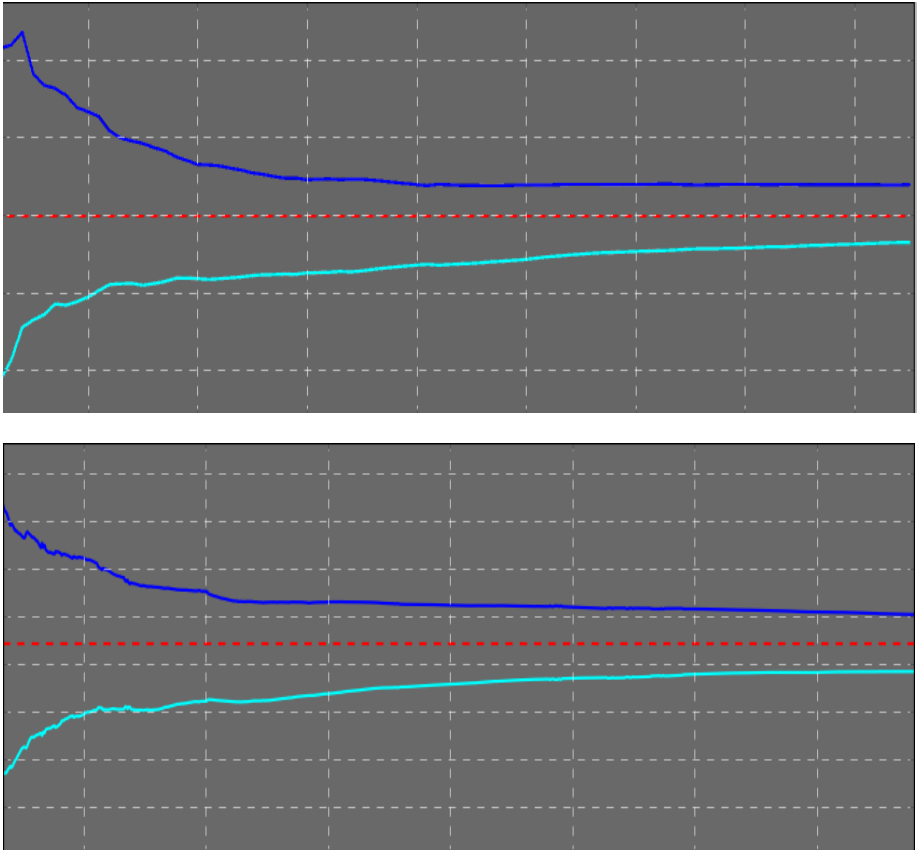

Figure 2.13 – Perfect progress of the trend band
2.3 Ideally, the band should gradually and symmetrically move towards a conditional central line in horizontal direction (examples are shown in Figure 2.13). If the band behaves that way during measurement (we can see that band edges are more or less symmetric with respect to the horizontal center shown with a red line-cursor), it means that the current result of specific activity calculation is valid enough.
2.11 You should keep in mind that the right side of the band gives the most reliable information about the specific activity, since it uses all data collected at a given time. Even if the band has not reached its stable condition yet (there is a tendency to move up or down), the most correct specific activity at a given instant is depicted in the middle of the right band edge, but not as a mean value throughout the length of the band. The example illustrates a correct location of the line-cursor (red dotted line) in the middle of the right edge of the band, which is the most probable value of specific activity (Figure 2.20 (a)), and an incorrect mid-level location of the line-cursor on the whole band (Figure 2.20 (b)). A perfect band shape (as in Figure 2.13), when the middle of the right band edge coincides with the middle of the whole band length, is rather a rare occurrence.
2.12 If the band shape becomes stable, i.e. its edges are coming together towards the horizontal central line in a stable and continuous manner (ideally as in Figure 2.13), one can anticipate that this very central line will later on converge with the most accurate value of the specific activity. Thus we can predictably accept a central value of the band as a final measurement result. In such a way measurement can be rather time-effective, but its result should be treated with care and such predictions should be allowed only when measurements are not very critical.